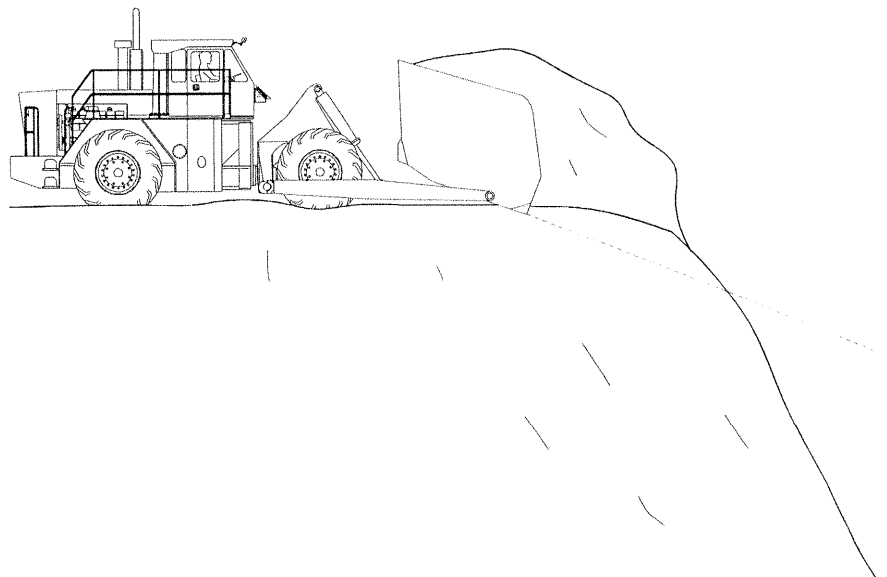

Fig. 4-13
3. Building a road off a pile. See Fig. 4-13.